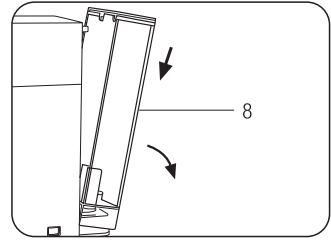

Fig.1
- To extract the tank (8), press it down and turn it outwards at the same time (Fig.1)